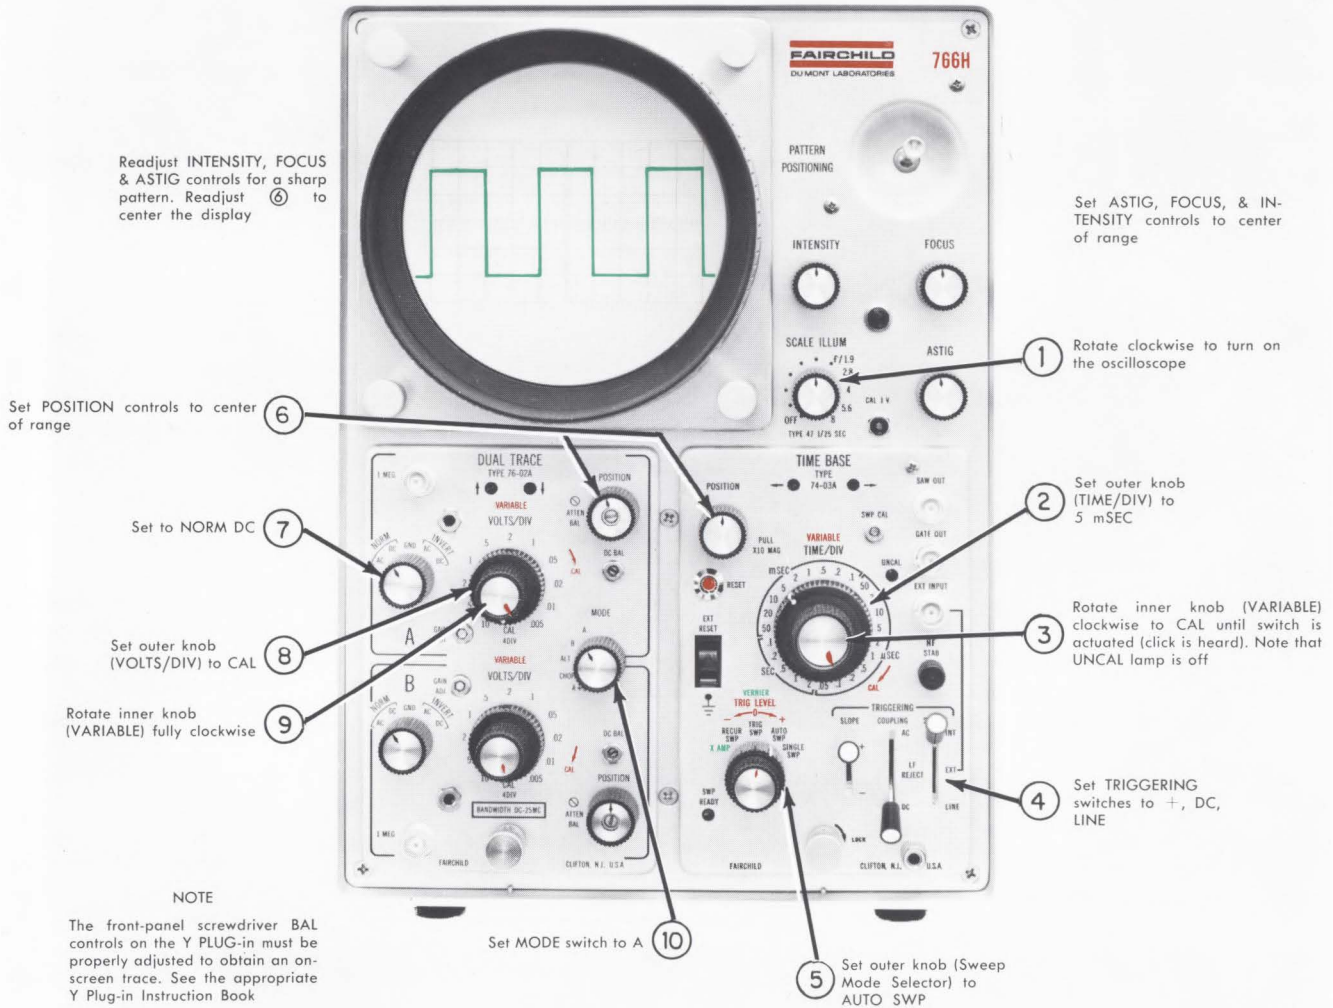

Figure 2-3. Initial Setup of Type 74-03A Time Base Plug-In
- Figure 2-3. Initial Setup of Type 74-03A Time Base Plug-In
1. Set up the instrument for normal display of the CAL signal. Allow a warmup time of 15 minutes. (See Figure 2-3.)